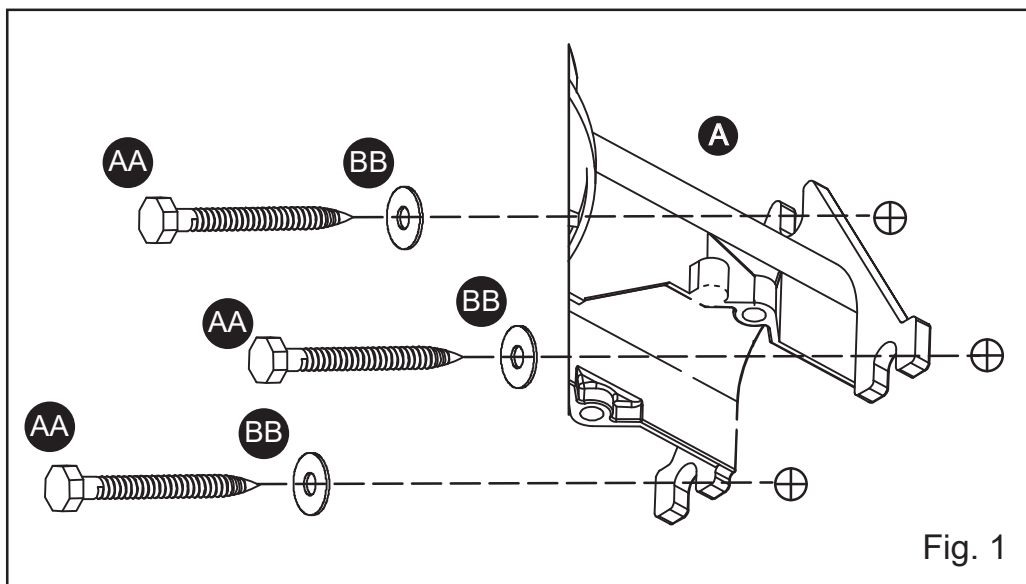

Fig. 1
Select a location on a flat wall with structurally sound wood and from 10 to 25 feet (3 to 7.6 m) from the ground. The wood should be at least one inch (25 mm) thick to safely secure the fixture. The fixture (A) can be mounted with three lag screws (AA) and washers (BB) which are provided. Using the fixture (A) as a mounting template, mark three mounting holes. We suggest drilling 3/16 in. (4.8 mm) pilot holes for the lag screws. Install the bottom two (AA) with washers (BB) first. Screw in the lag screws (AA) so that there is about 3/8 in. (9.5 mm) of space under (BB). Place (A) on these two (AA) and install the top (AA) and (BB). Tighten the top (AA) first, and then tighten the remaining (AA) (see Fig 1).